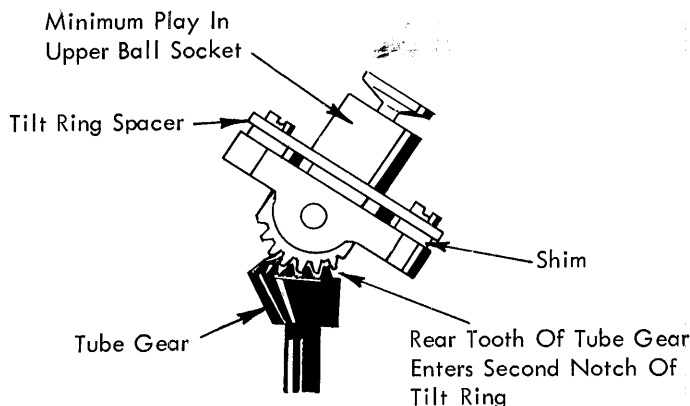

FIGURE 95. Upper Ball Socket Adjustment
The tilt ring can easily be removed if the machine is half cycled to a two tilt position. On machines prior to the gearless tilt mechanism, care should be taken to insure that the tilt sector gears are properly meshed whenever the tilt ring is installed. The rear tooth of the tube sector gear should enter the second notch of the tilt ring sector gear (Fig. 95).
4. Upper Ball Socket - The upper ball socket must rotate completely free of binds with little or no up and down play. The adjustment is made by raising or lowering the tilt ring spacer by installing thicker or thinner shims at the front and rear (Fig. 95).